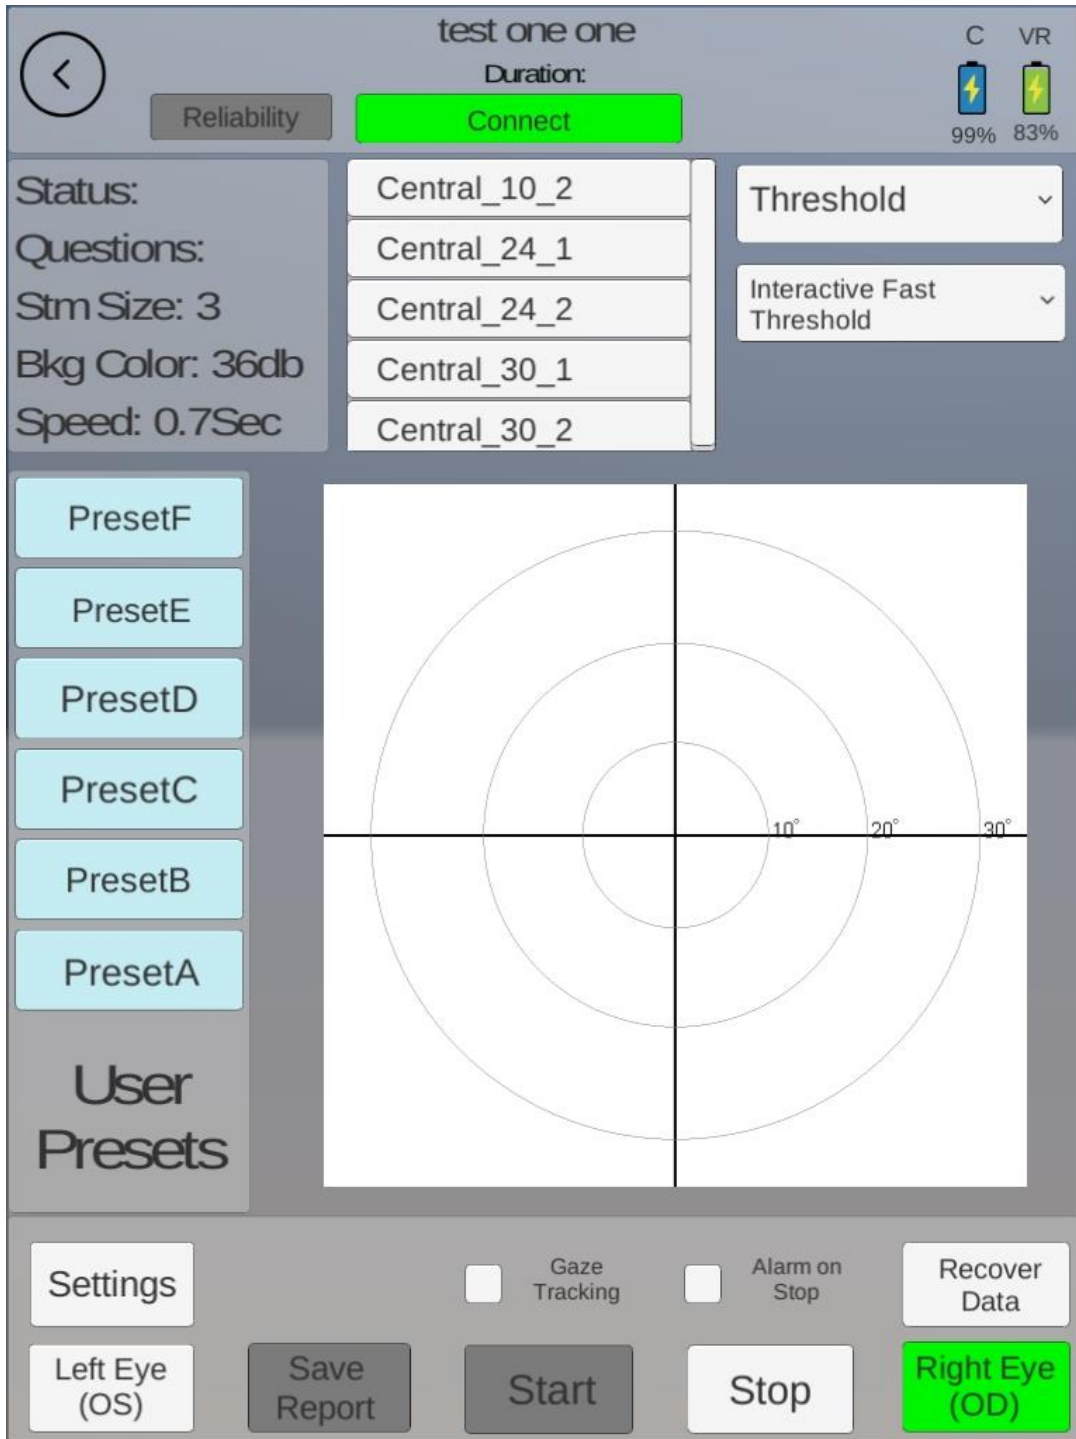

Figure 45: Visual Field Page Right Eye (OD) Selected
Selecting “*Visual Fields*” test selection and the Visual Fields Test Page will open up as shown in Figure 45: Visual Field Page Right Eye (OD) Selected.